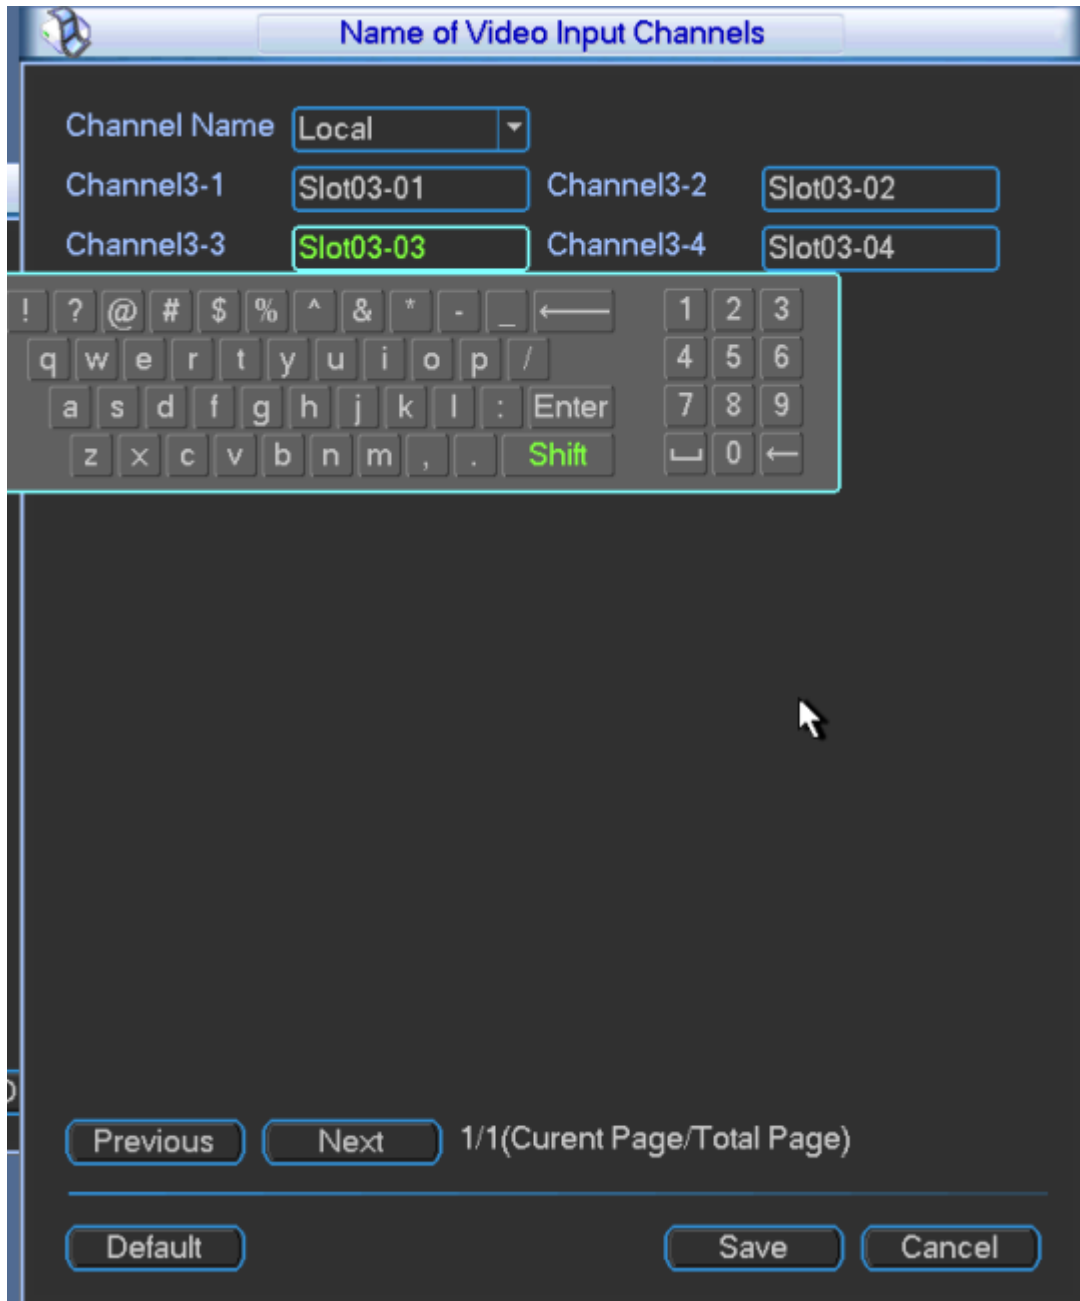

Figure 3-62
- Step 1 Click "Modify" in the right of "Channel Name". The system displays "Name of Video Input Channels" interface, as shown in Figure 3-62.